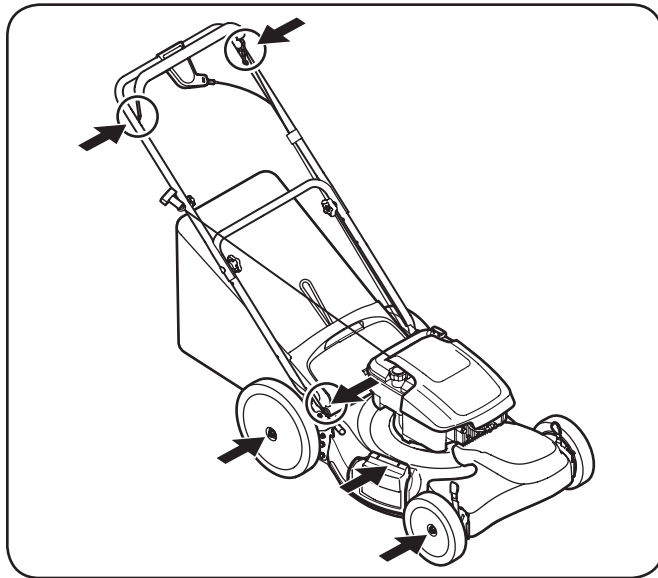

Figure 6-1
1. Lubricate pivot points on the blade control at least once a season with light oil. This control must operate freely in both directions. See Fig. 6-1.
2. Lubricate the wheels at least once a season with light oil (or motor oil). If wheels are removed for any reason, lubricate surface of the pivot arm and inner surface of the wheel with light oil. See Fig. 6-1.
3. Lubricate the torsion spring and pivot points on the rear discharge door and side mulch plug periodically with light oil to prevent rust. See Fig. 6-1.